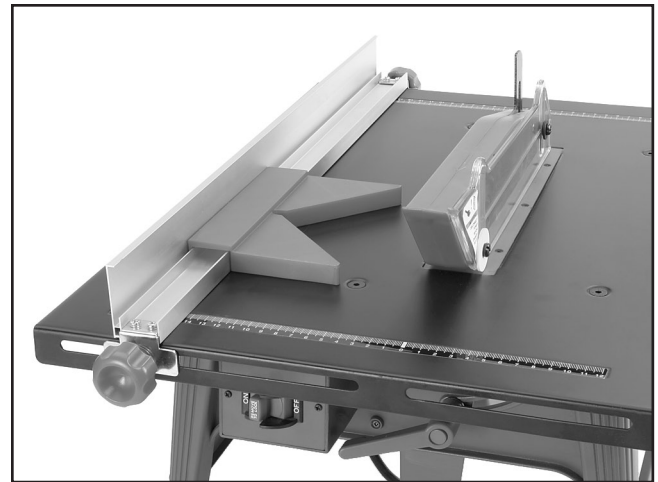

Figure 13. Fence setup for miter cutting.
For this type of cutting, the fence is setup facing away from the blade, as shown in **Figure 13**. This position is required to use the miter sled for 45° miter cuts.
3. Install the miter sled on the fence, as shown in **Figure 13**.